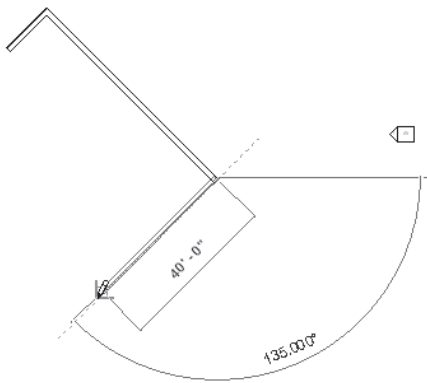

Figure 3-41 Sketching the third inclined wall segment
7. Move the cursor downward to the left until the perpendicular object snap appears. Move the cursor in that direction and click when the temporary dimension value displays 40'0", as shown in Figure 3-41. The third inclined wall is created.